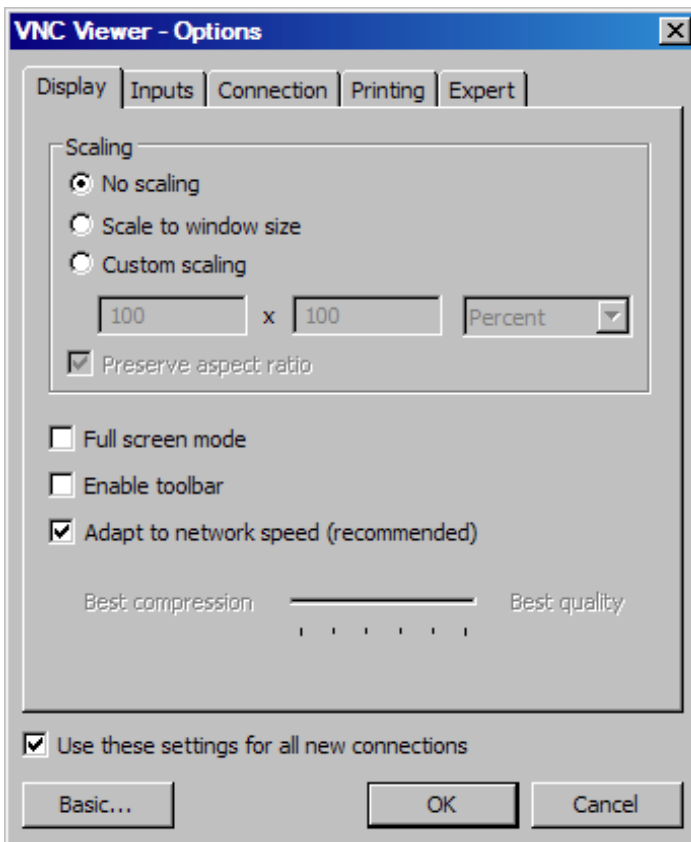

Fig. 131: VNC Viewer - Options - Display Tab
- At the VNC View - Options screen (Fig. 131), click on the “Display” tab. Toggle the scaling to “No scaling.” Check the checkbox for “Adapt to network speed (recommended).”